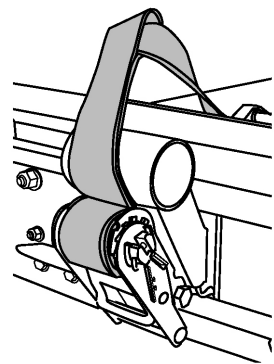

Figure 19
11. Route the tire strap in front of tube and through slot in ratchet spool, then tighten the tire strap as far as the ratchet allows. (Figure 19)